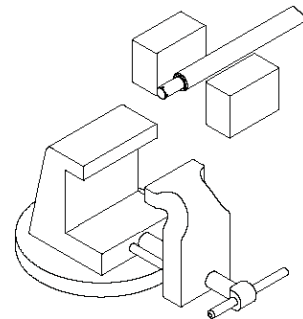

Figure 5-5, Cylinder Shaft
5. Clamp the rod assembly in a soft-jawed vise on the wrench flats, not on the rod surface. If the rod does not have wrench flats use two pieces of wood on both sides of the rod to prevent scarring. (Figure 5-5)